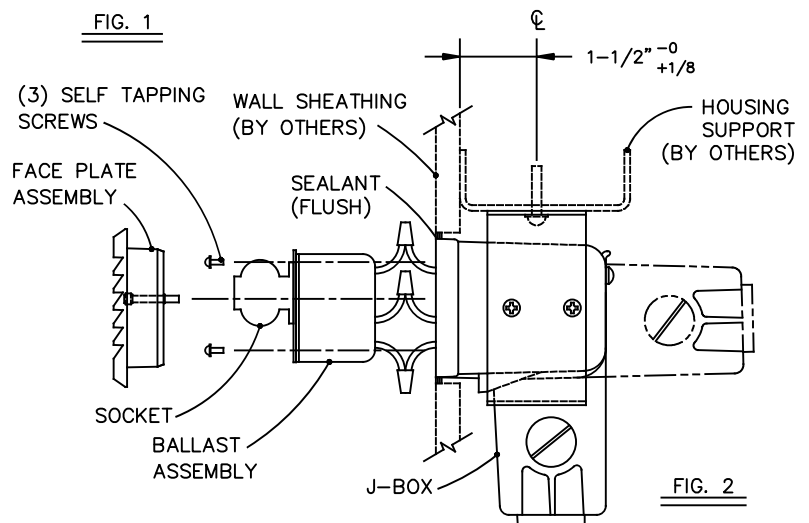

FIG. 2
3. The j-box was positioned at the factory for most stud wall installations. If necessary, prior to installation, reposition j-box per fig. 2 to custom fit requirements.
7. Hang housing assembly on support screws per fig. 2, positioning front of housing flush with outside finish surface of wall sheathing, (drywall, wood, etc.) per fig. 2. Use small scrap piece of actual sheathing as a guide. \*Sheathing to be installed later by others.\*
12. Seal gap between outer edge of housing and sheathing with silicone RTV or equivalent. See fig. 2.
4. Dress excess wiring and push into j-box. Attach ballast assembly into housing per fig. 2 using (3) self tapping screws provided in the housing.
6. Install face plate with mounting screws per fig. 2. Be sure mounting screws are snug, but do not over tighten. When installing the open face plate, take note of the arrow on the back indicating orientation.